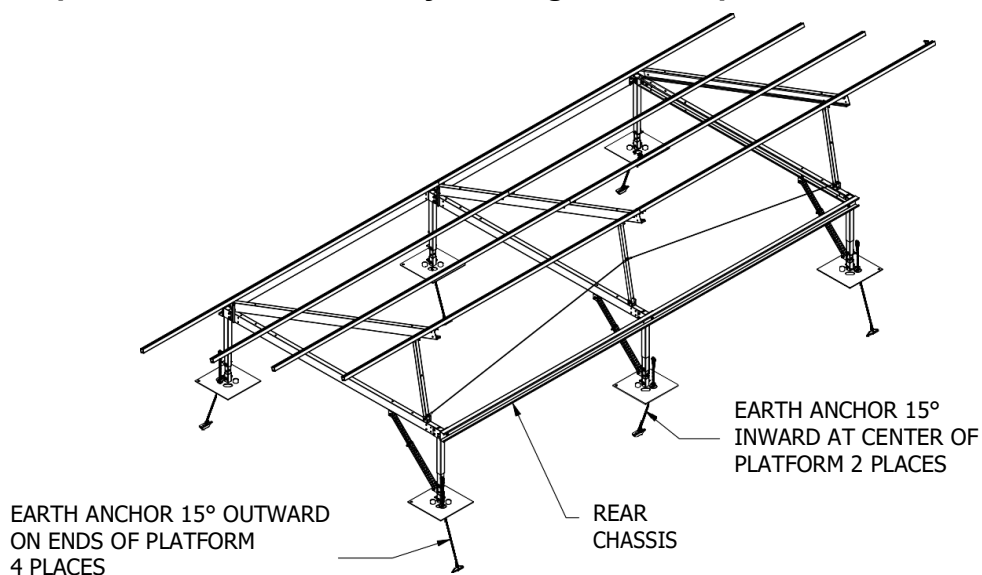

Figure 25: Earth Anchors Installed and Load Tested
16. **All test loads must be recorded, documented in spreadsheet form and submitted to Nuance Energy for review within 60 days of the installation date via [www.nuanceenergy.com/warranty](http://www.nuanceenergy.com/warranty). Refer to Figure 25 below.**